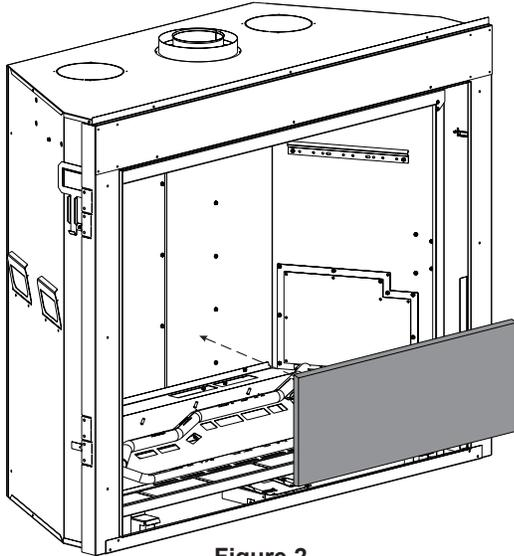

Figure 2
1. Place LINER REAR - BOTTOM on the back of the firebox and hold with one hand. See Figure 2.